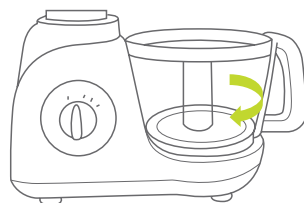

Fig. 13
1. Drop the processing bowl onto the base assembly by rotating the bowl clockwise until you hear a click. (Fig.13)